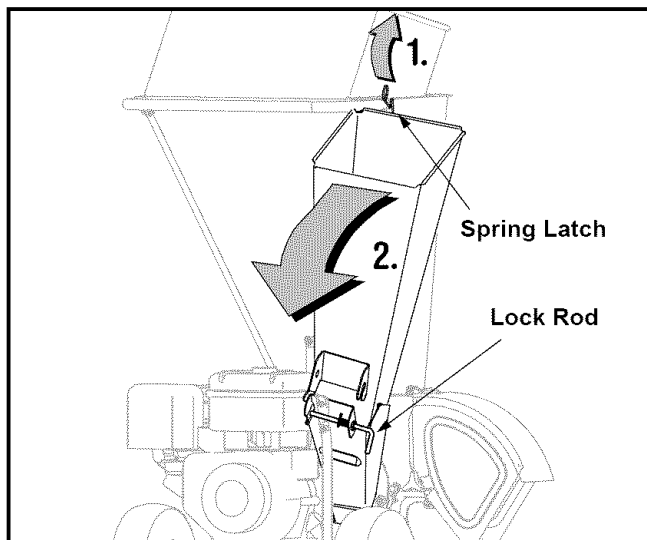

Figure 1
- Pull the spring latch upward and gently pivot the chipper chute down until it clicks into the lock rod. See Figure 1.